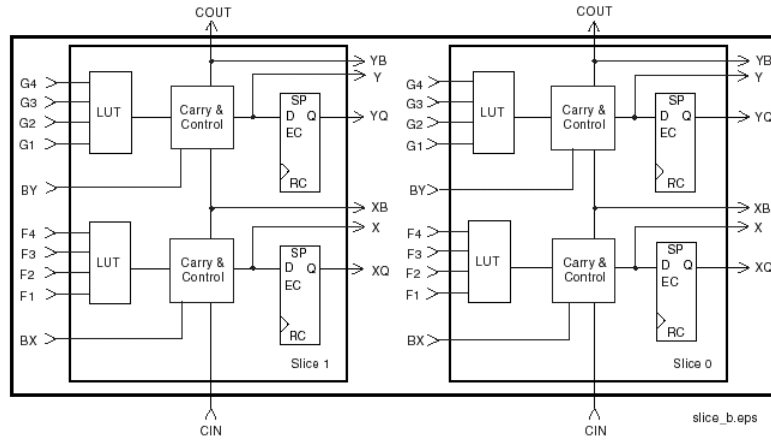

Figure 3; A simplified slice view. Taken from Virtex 2 datasheet.
The basic building block of a FPGA is a *slice* which is made of two identical *Configurable Logic Block (CLB)*, as shown in figure 3. A CLB is made of *Look-up Table (LUT)* units; some carry and
- LUT: Form the basic logic generation. It is typically of four inputs, being able to build any four-input logic function. In a CLB as the one shown in figure 3, a LUT can also be configured and used as a 16-bit x 1 RAM or a 16-bit shift register.